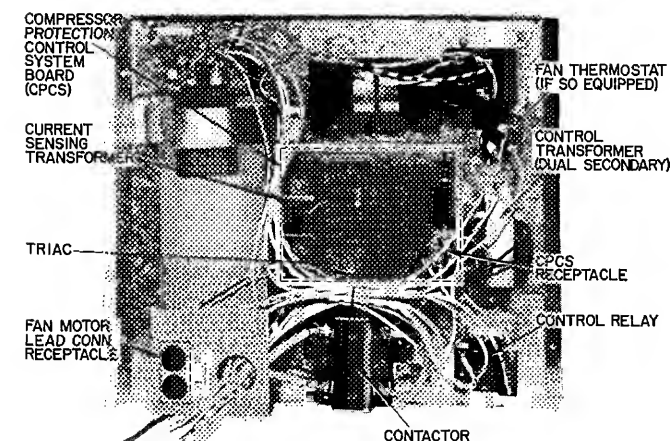

Fig. 7 — Control Panel (Cover Removed)
Outdoor Fan Thermostat (38SE055 and 38GR units) switches fan to high speed (Table 5) when outdoor temperature reaches 90 F – maintains proper condensing temperature at high outdoor air temperatures. Thermostat is located on Control Panel, Fig. 7.
Compressor Protection Control System (CPCS — Solid State, Fig. 7) provides: compressor motor locked rotor protection; compressor start winding protection; compressor motor running overload protection; compressor over-temperature protection; contactor anti-chatter protection.
2. Disconnect fan motor leads from control panel located on service door. See Fig. 7 and refer to Service Door on page 3. Remove 6 screws holding fan motor orifice assembly in place and lift assembly from unit.